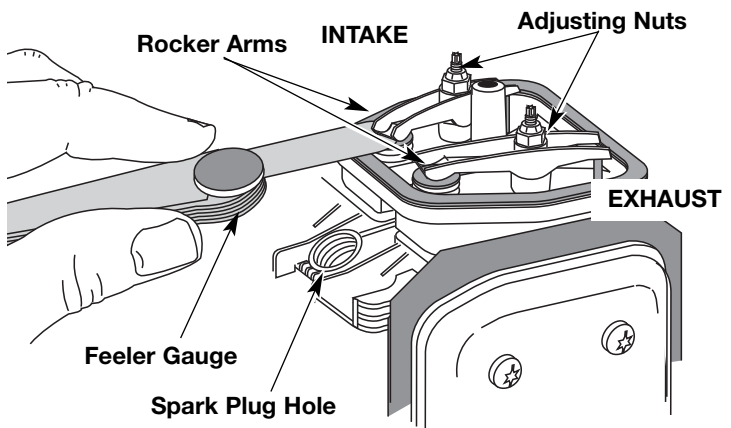

Fig. 32
- The piston is at the top of its travel while looking in the spark plug hole (Fig. 32).
- Slide the feeler gauge between the rocker arm and the valve return spring. Measure the clearance between the valve stem and rocker arm (Fig. 32). Measure both the intake and exhaust valves.
The recommended clearance for both intake and exhaust is .003 – .006 in. (.076 – 0.152 mm). Use a standard automotive .005 in. (0.127 mm) feeler gauge. The feeler gauge should slide between the rocker arm and valve stem with a slight amount of resistance, without binding. See Figures 32 and 33.